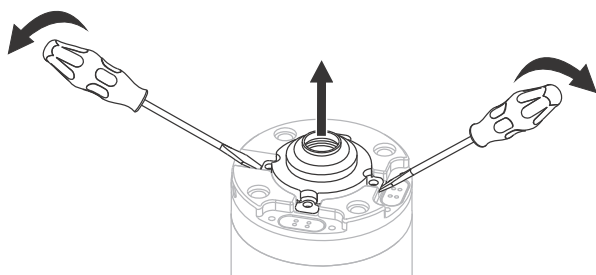

Fig. 3 Removal of shaft seal housing
2. Before dismantling the motor, disconnect the motor cable, by slacking and removing the two screws, pos. 221 and the screw, pos. 50, which is holding the earth clamp.
4. Remove the sand shield, pos. 27, from the shaft.
5. Slacken and remove the remaining three screws, pos. 50, holding the shaft seal housing, pos. 32.
6. Use two screwdrivers to tip out the shaft seal housing, pos. 32, see fig. 3.